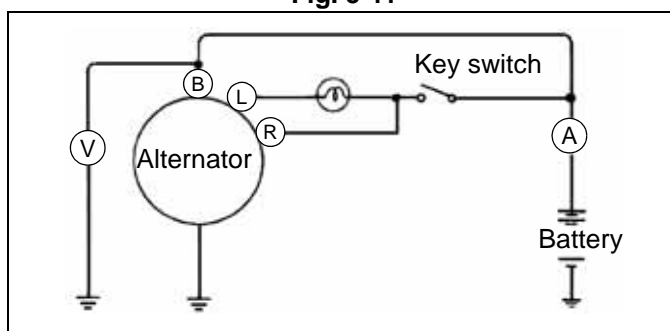

Fig. 5-12
1. In equipment without an ammeter, connect a ammeter (50A capacity) at the position shown in page 5-5, Fig. 5-12. In equipment with an ammeter, make use of the ammeter on the equipment.
Caution: If the test ammeter is connected at the position shown in page 5-5, Fig. 5-12, make sure that no starting current is applied to the ammeter when the engine is started.
1. Turn ignition switch to off position, disconnect the terminal B of the alternator and connect an ammeter (50A capacity) at the position shown in page 5-5, Fig. 5-12.